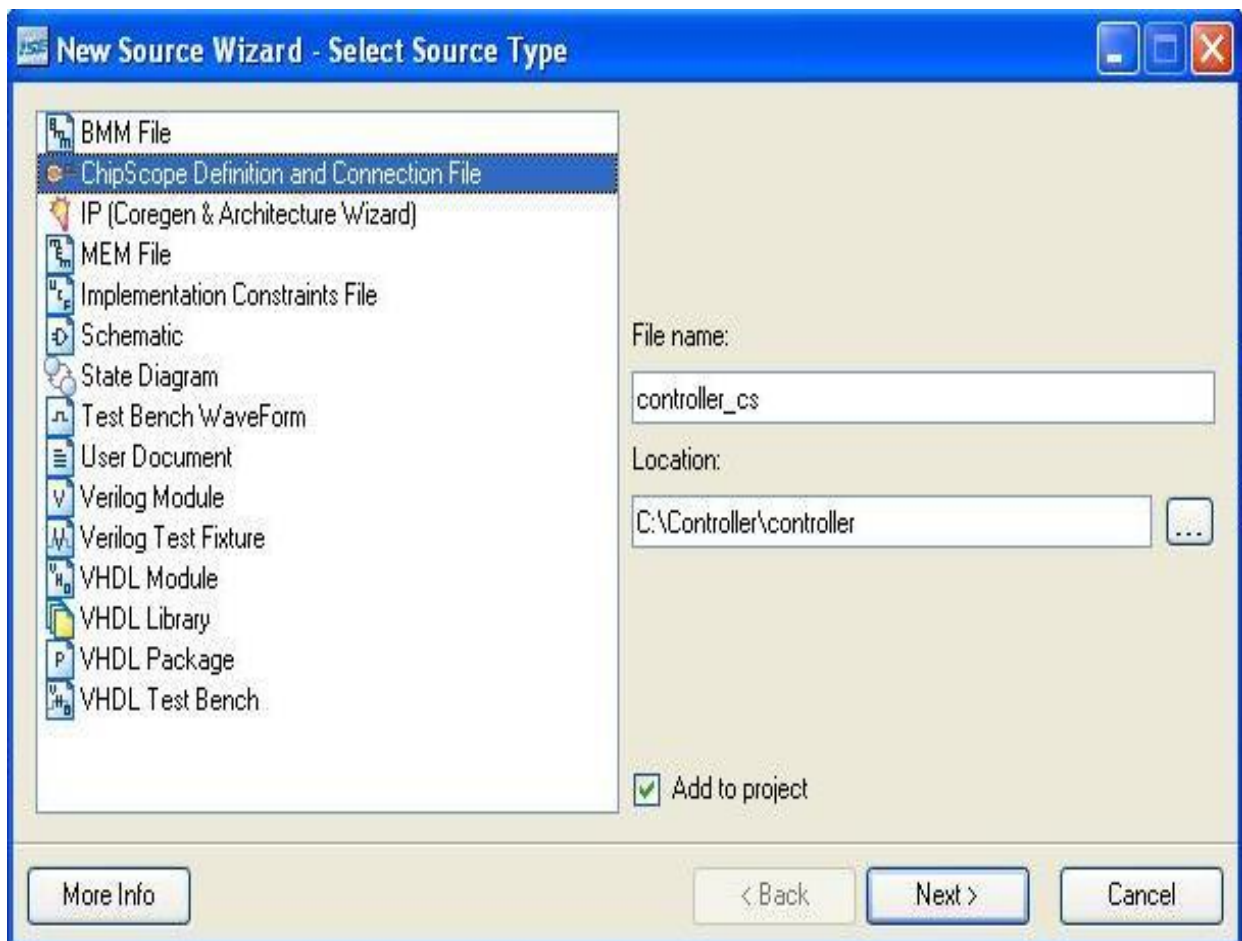

Fig 3.6: Adding Chipscope Definition and Connection File
1. Now right click on the top module (controller) of the design which ought to be verified and select **New Source**. Then, select **Chipscope Definition and Connection File** and give some appropriate name to it as shown in Fig 3.6.